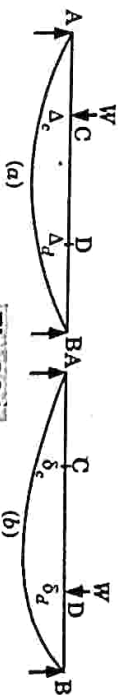

Fig. 3.3.1.
- In Fig. 3.3.1(a) beam AB carries a load W at point C. Let the deflection at C be  $\Delta_c$  and when load W is acting at point D. Let the deflection at point D is  $\delta_d$  then according to law of reciprocal deflections or Maxwell's reciprocal deflection theorem we have